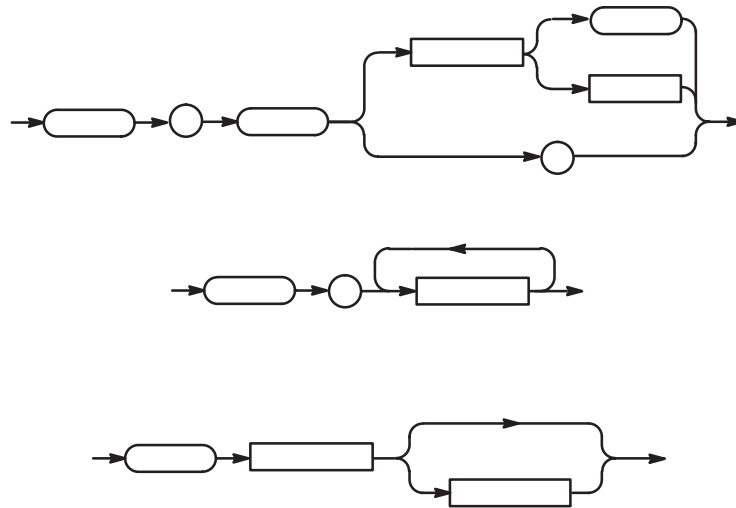

Figure 3–2: Typical Syntax Diagrams
The syntax of each command and query is explained by syntax diagrams as well as the BNF notation. Figure 3–2 shows some typical syntax diagram structures.
- Parallel paths show that one and only one of the paths must be taken in the command (see the top diagram of Figure 3–2)